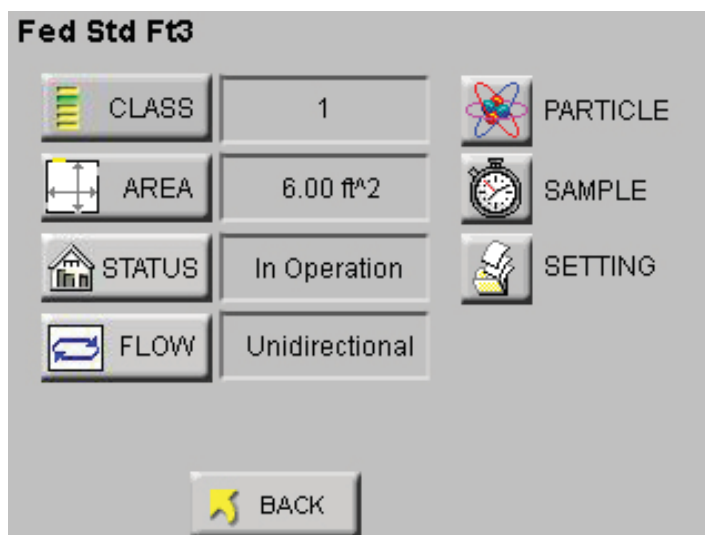

Figure 6-92 Reports Setup Screen No Locations
- When “REPORTS” are enabled, the “LOC” and “SAVE” buttons are displayed only when there are at least the minimum number of locations needed for the recipe area available. See Figure 6-92.